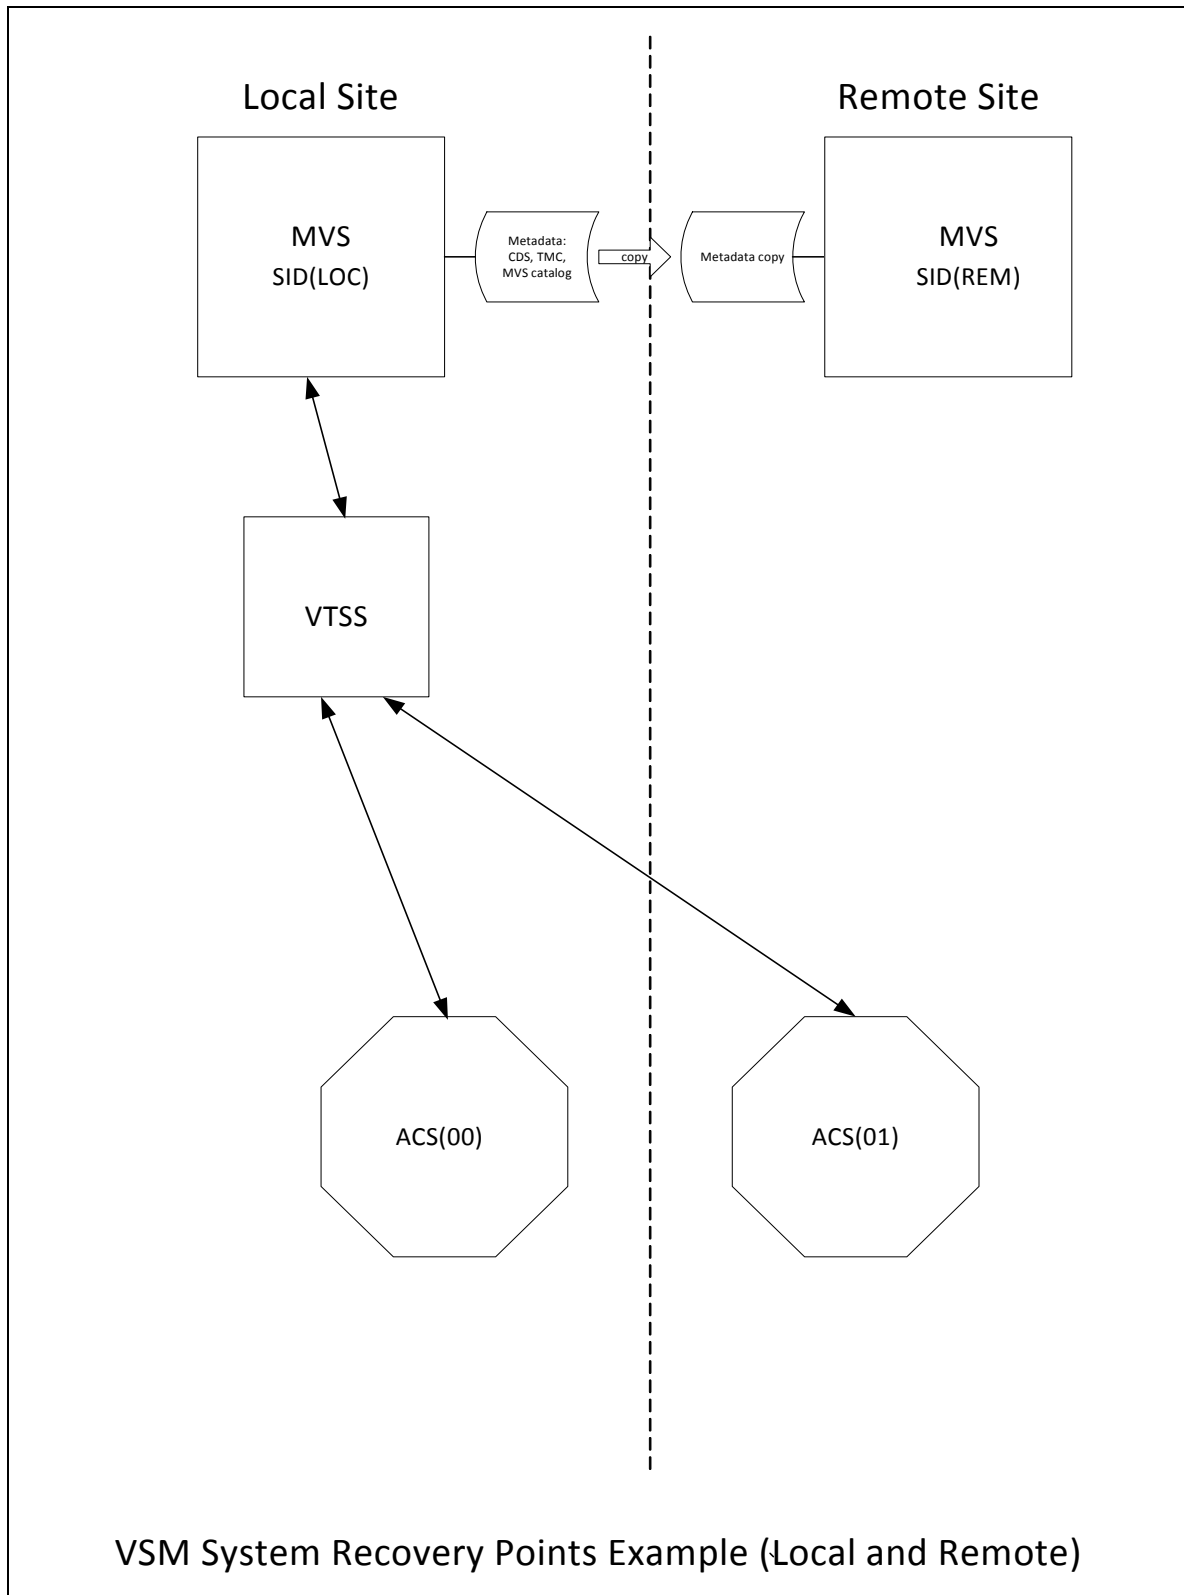

FIGURE 8-1 VSM System Recovery Points Example (Local and Remote)
- We have a local site with a VTSS plus an ACS (ACS 00), and a remote site with just an ACS (ACS 01) as shown in FIGURE 8-1 on page 143.
To run this example using the configuration shown in FIGURE 8-1 on page 143: